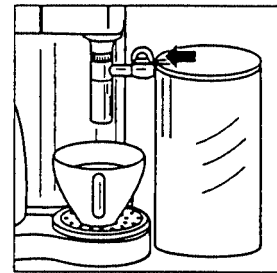

FIGURE 11
8. Securely connect the pitcher to the frothing nozzle (Figure 11).